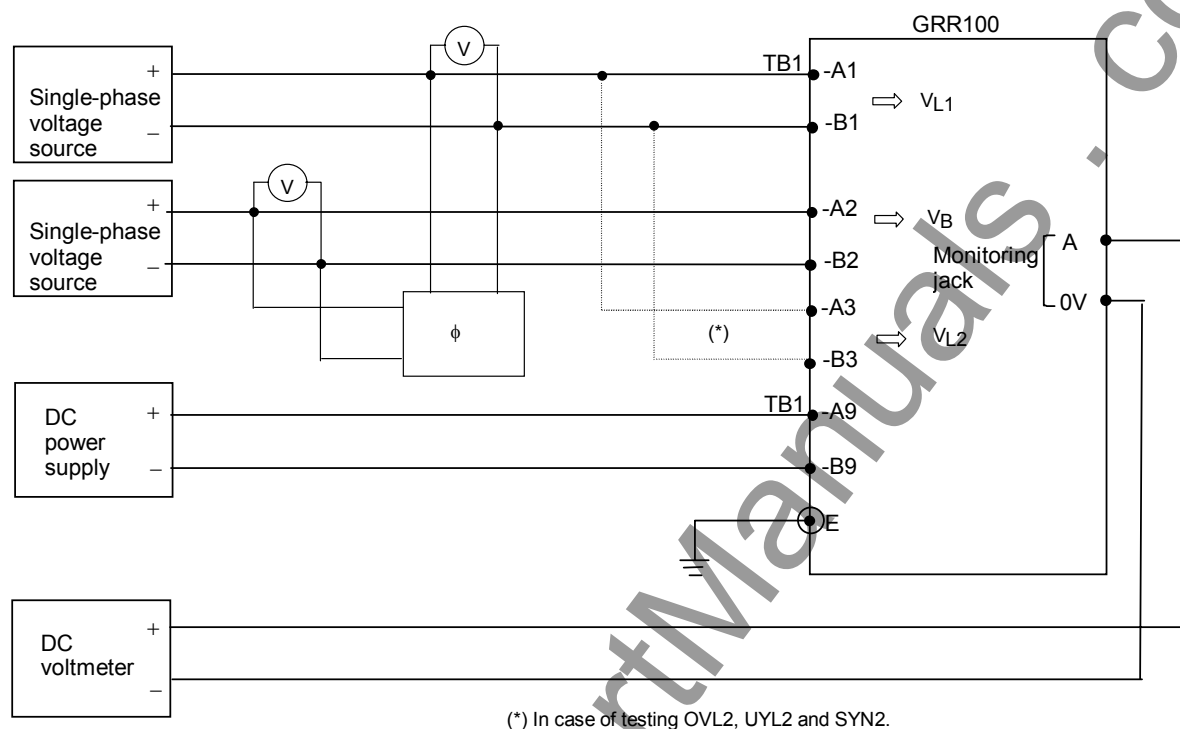

Figure 6.5.1 Operating Voltage Value Test Circuit
The testing circuit is shown in Figure 6.5.1.
- Apply a rated voltage as shown in Figure 6.5.1.
- Apply rated voltages VB and VL1 as shown Figure 6.5.1.
- Apply a rated voltage VL2 instead of VB as shown with broken lines in Figure 6.5.1. Substituting VL2 for VB, the test can take the same step as testing SYN1.